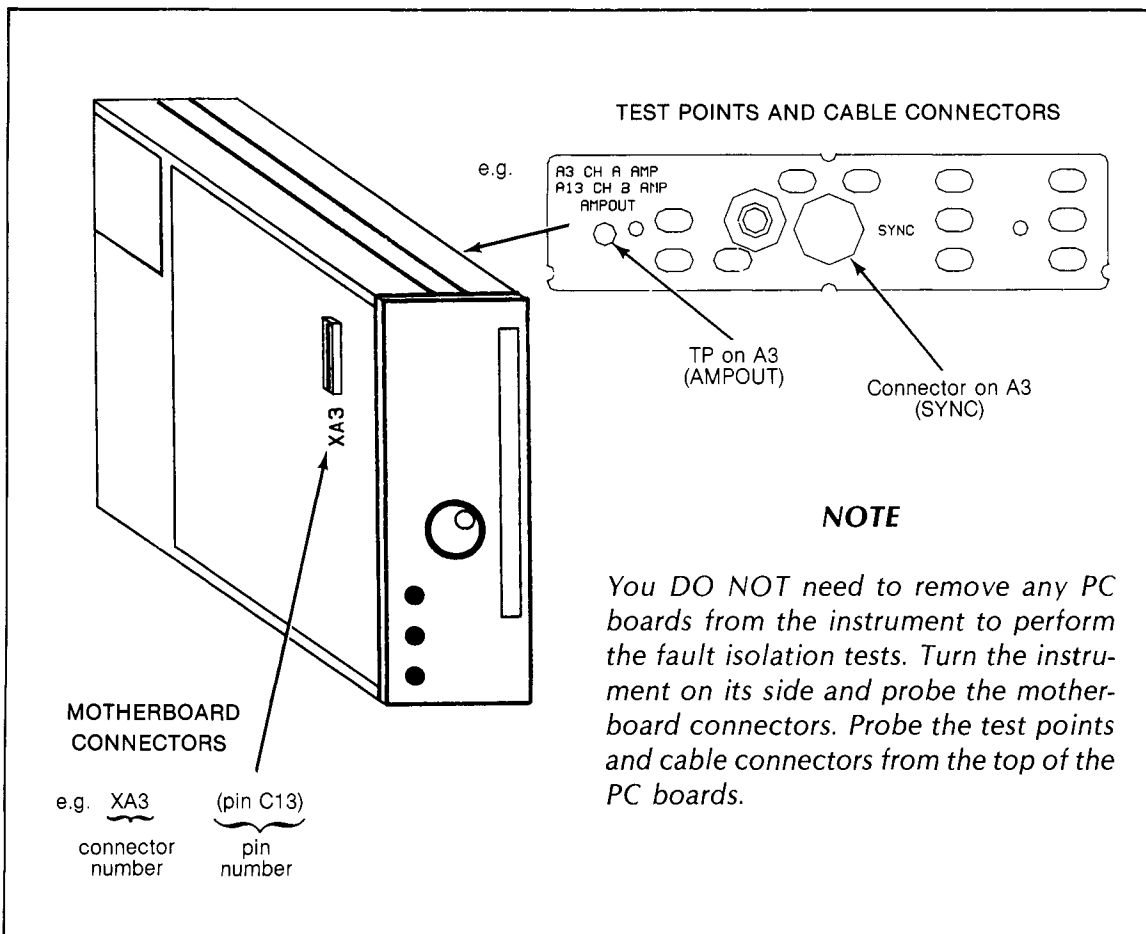

Figure 6-12. Fault Isolation Test Signal Locations
- 1. Turn the instrument on its side.** Remove top and bottom instrument covers. See Figure 6-12.
- **Probe the test locations.** The test locations are in one of two places — on a motherboard connector or on the top of a PC board. See Figure 6-12.